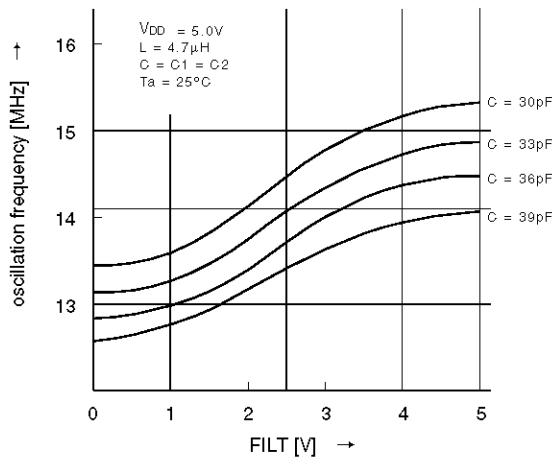

Figure 10 FILT-LC Oscillation Frequency (1)
* See Figures 10 and 11 for the oscillation frequency.
- Adjust the voltage of monitor point in Figure 10 to $1/2V_{DD}\pm 10\%$ by the LC oscillation constant 'L' or 'C' to lock the PLL circuit.